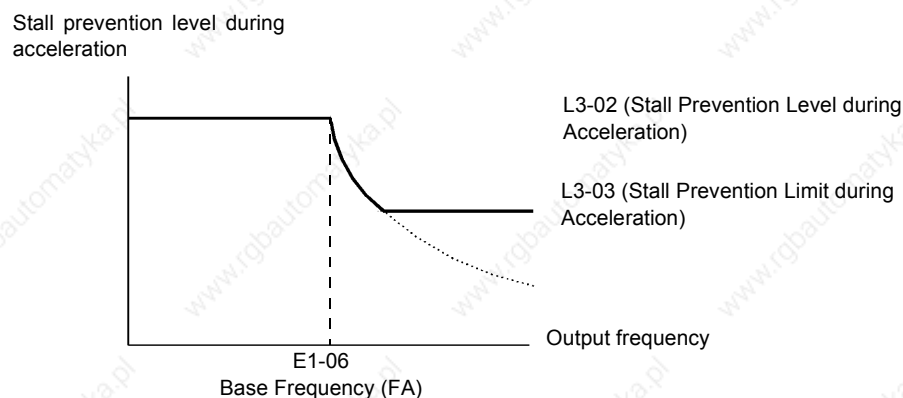

Fig 6.27 Stall Prevention Level and Limit During Acceleration
- If using the motor in the constant power range, L3-02 will be automatically lowered to prevent stalling. L3-03 is the limit value to prevent the stall prevention level in the constant power range from being reduced more than necessary (see Fig 6.27).